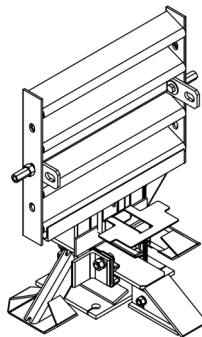

Figure 28
- 6) Attach chain to Pullout Brackets on first Diaphragm (Figure 28). Attach both ends of chain to a heavy vehicle (such as a 1 ton pickup).